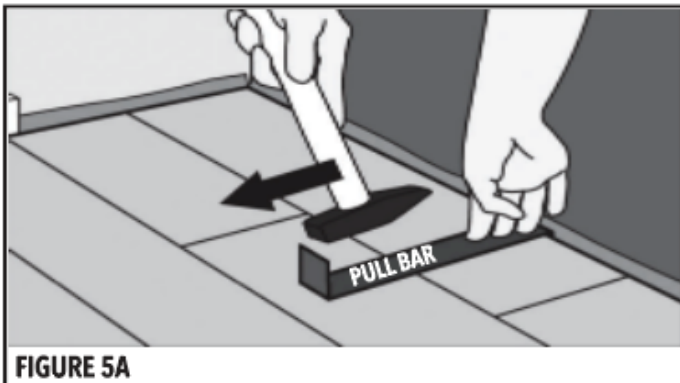

FIGURE 5A
11. AquaLogic Pro Flooring is unique in that difficult areas they can be installed with a pull bar or tapping block and rubber mallet. Use of a pull bar and rubber mallet to lock the joints together in the last row may be necessary. Always use a pull bar on the cut edge of the plank. Factory edges can be damaged if the pull bar is used directly against them. (Refer to Figure 5A and 5B)
WHEN FITTING AROUND A DOOR TRIM IT WILL BE NECESSARY TO SLIDE THE PLANK UNDER THE TRIM. THIS CAN BE ACCOMPLISHED EASILY BY STARTING THE ROW ON THE SIDE OF THE ROOM WITH THE DOOR TRIM AND THEN SLIDING THE PLANK INTO PLACE ONCE IT IS ATTACHED. THE ROW CAN BE COMPLETED BY INSERTING THE TONGUE INTO THE GROOVE OR THE GROOVE INTO THE TONGUE DEPENDING ON THE DIRECTION. A SPECIAL UNILIN® APPROVED TAPPING BLOCK AND PULL-BAR CAN ALSO BE USED TO LOCK THE JOINTS TOGETHER WHILE THE PLANKS ARE IN A FLAT POSITION. USE A SERIES OF LIGHT TAPS UNTIL THE JOINT IS GRADUALLY LOCKED TOGETHER. (REFER TO FIGURE 5A AND 5B)